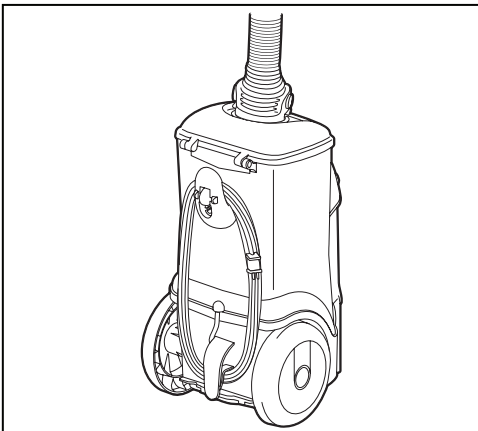

Fig.5
- Step 5:** Wrap cord around cord hooks on the bottom of the canister and snap plug into place over cord (Fig. 5).